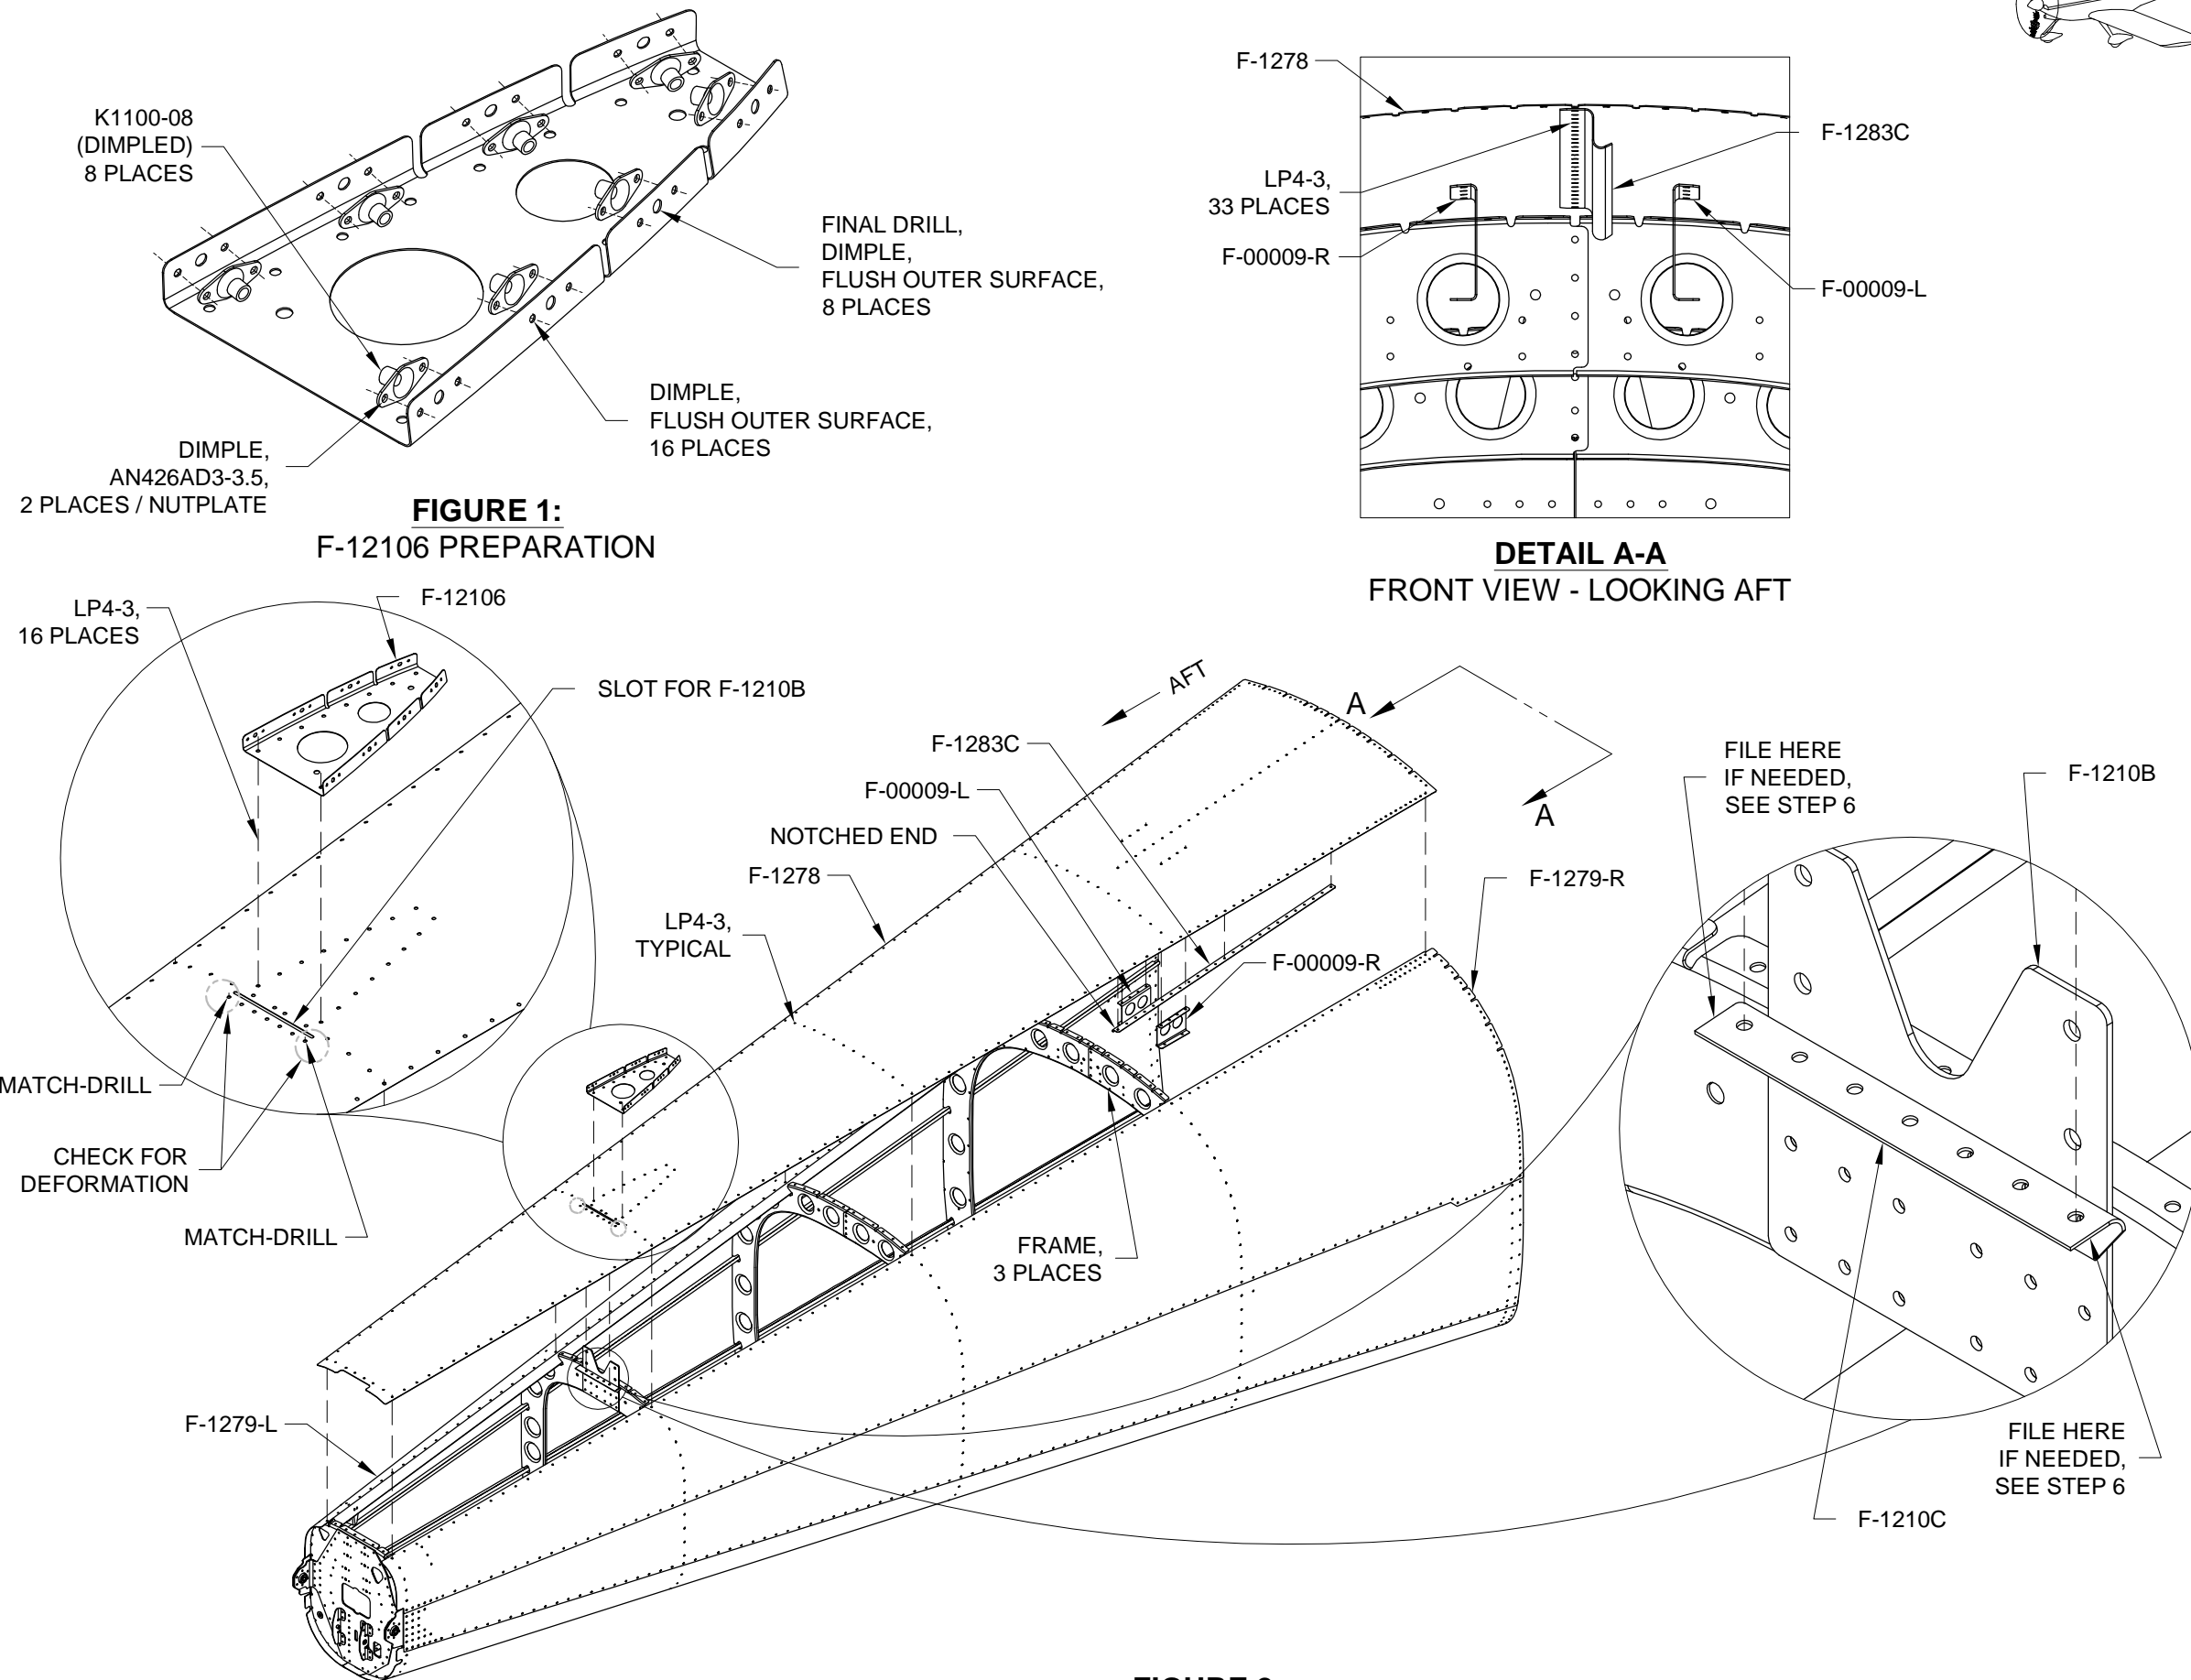

FIGURE 2:
Step 11: Rivet all of the remaining, unmasked open holes in the Tailcone Assembly using rivets called out in Figure 2.